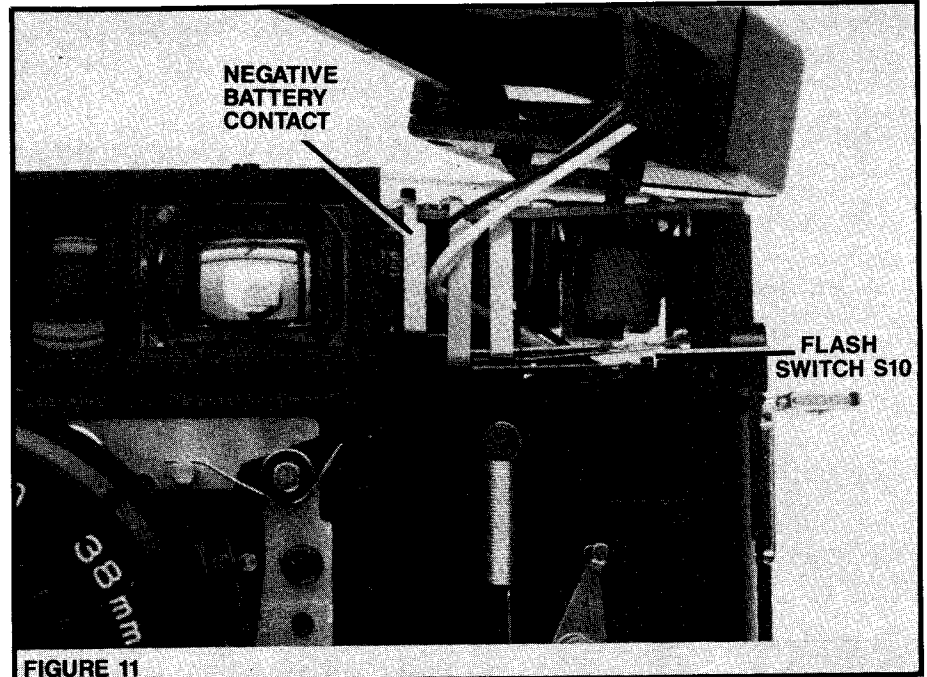

FIGURE 11
1. Rewind shaft broken. The old-style rewind shaft has straight sides on the fork that engages the film cassette. The revised rewind shaft has slanted sides. To replace, lift aside the flash-circuit board (one screw, unsolder negative-battery contact and two flash-switch contacts, Fig. 11). New-style rewind shaft—0473-3101-03.
Flash switch, Fig. 11, poor contact